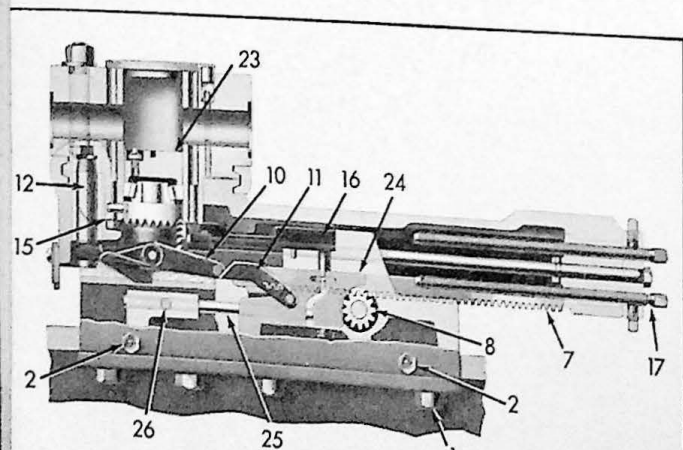
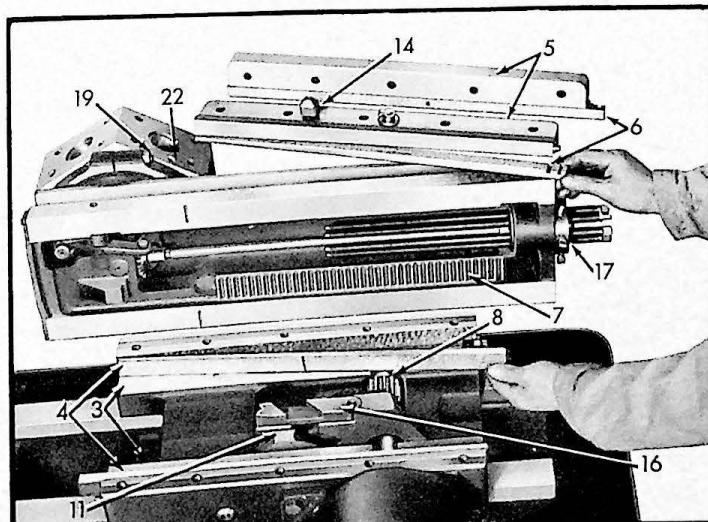

FIG. 37 Phantom View of Turret Slide and Saddle
FIG. 38 Bottom of Turret Slide
The Saddle is clamped to the bed with four bolts on each side (1), Fig. 37. It is aligned against the side of the bed by two shoes backed up by set screws and lock nuts (2). These shoes should be adjusted to a sliding fit and locked. Then they require practically no further attention, as the saddle is moved along the bed only when setting up the machine for a new job. However, when these screws are not properly adjusted the turret saddle is not parallel with the bed, causing inaccuracy in the work.
Hardened and ground steel wear-strips on which the slide rides (3), Fig. 38, are anchored in the saddle. These are replaceable and can be supplied thicker than standard for repair purposes.
Side alignment is obtained through two taper gibs (4), Fig. 38. Care should be used and both sides moved the same amount, to keep the turret in alignment with spindle. In case of doubt, an alignment check should be made. (See chapter on alignment).
The top caps (5), Fig. 38, are provided with taper gibs (6) for adjusting vertical play.
The Turret Slide is operated through rack (7), and pinion (8) Fig. 37 and Fig. 38, on the turnstile shaft.
1. Beginning with the slide in its forward position, moving it to the rear causes lock bolt lever (10), Fig. 37, to strike the rising angle of tumbler (11). This action lowers the lock bolt (12) and frees the turret.
3. As the turret slide moves farther to the rear, one of the six index pins (15), Fig. 37 and Fig. 38, contacts with pawl (16), Figs. 37 and 38, holding the pin against further movement and thus causing the turret to rotate one-sixth turn.
4. In the meantime the rear end of lock bolt lever (10), Fig. 37, has reached the rear corner of tumbler (11), causing the lock bolt lever to snap the lock bolt into the lock bolt bushing in the hexagon turret.
5. During this turret rotation the stop roll unit (17), Fig. 37, has also been rotated one-sixth of a
- As the turret slide travels forward again, the binder ring is clamped and the tumbler (11), Fig. 37, rises, allowing the lock bolt lever to pass, then drops back to its seat, completing the cycle.
- See that the slot between the two ring halves at the front is $\frac{1}{8}$ inch wide. Lock the front screw with its lock nut (19), Fig. 38. This screw should not be disturbed thereafter.
2. Loosen set screw (22), Fig. 38, which locks the bearing adjusting plug (23), Fig. 37.
6. Bring bearing adjusting plug (23), Fig. 37, down forcefully to a solid and firm seat.